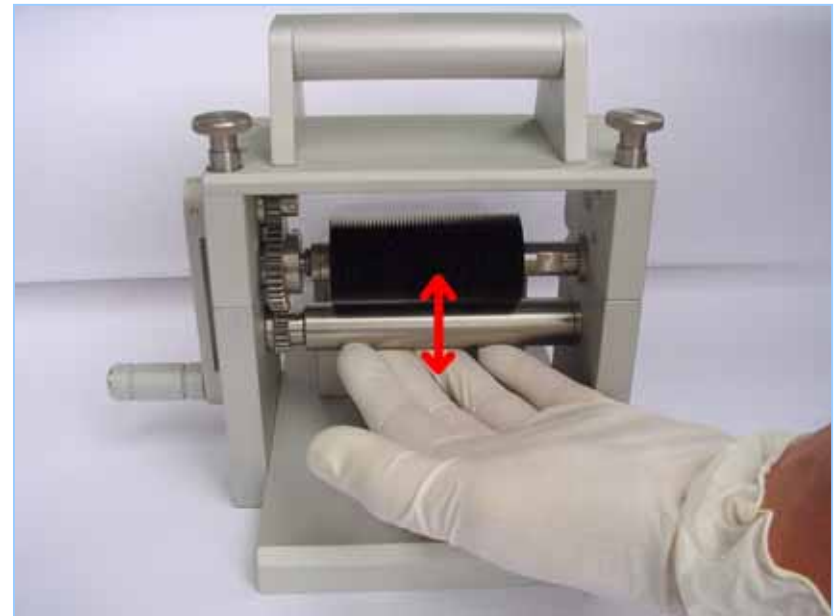

Fig. 11. Checking the carrier adjustment of the mesher
- Put the mesher on a table with the backside towards you, put your hand under the transport axis and lift it a little, as shown in fig. 11.